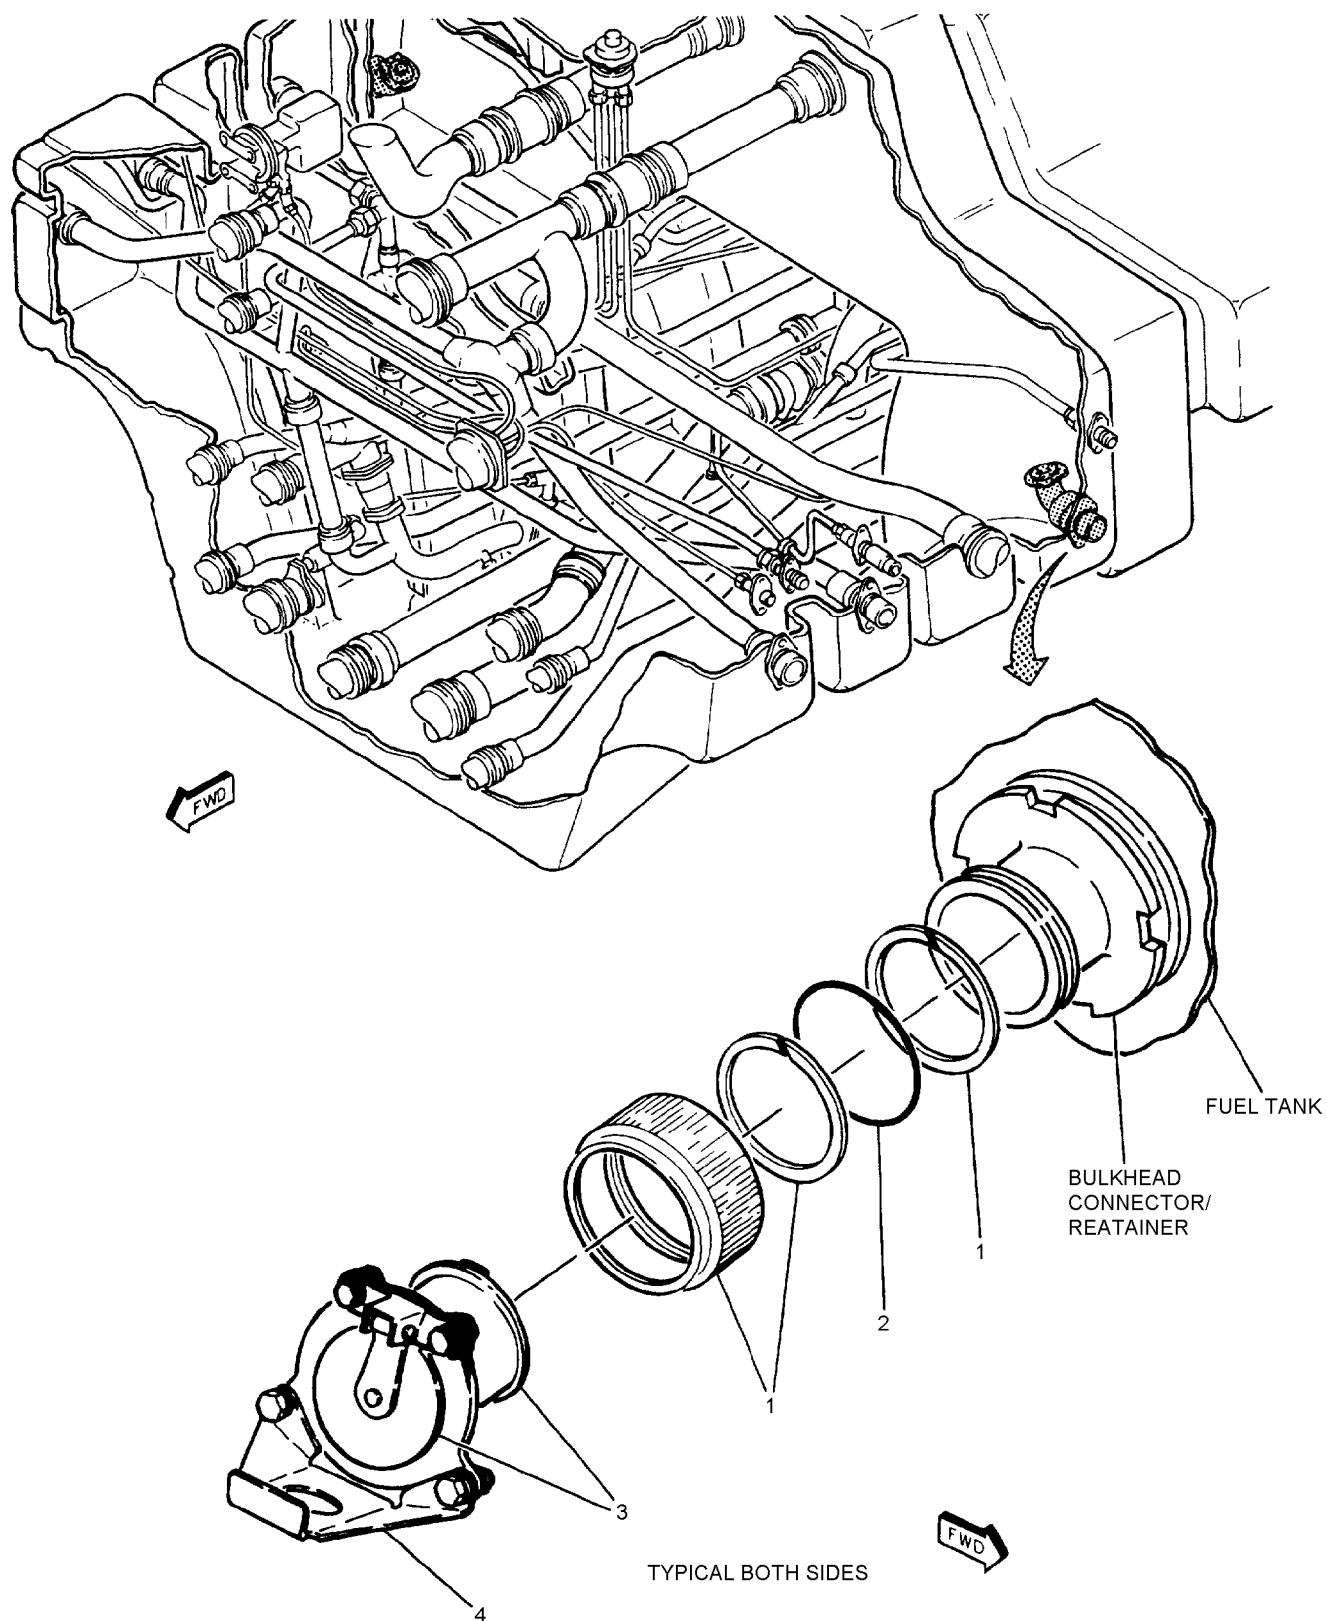

Figure 1. Wing Fuel Gravity Check Valve (5VAP587 or 5VAR588) (Sheet 1)
- b. Lubricate new packing (2) with petrolatum.
- c. Install shield (4, figure 1) and attaching parts on check valve (3).
- d. Install packing (2), nut assembly (1), and check valve (housing assembly) (3). Handtighten nut (1).
- e. Visually inspect valve (3) for freedom of movement.